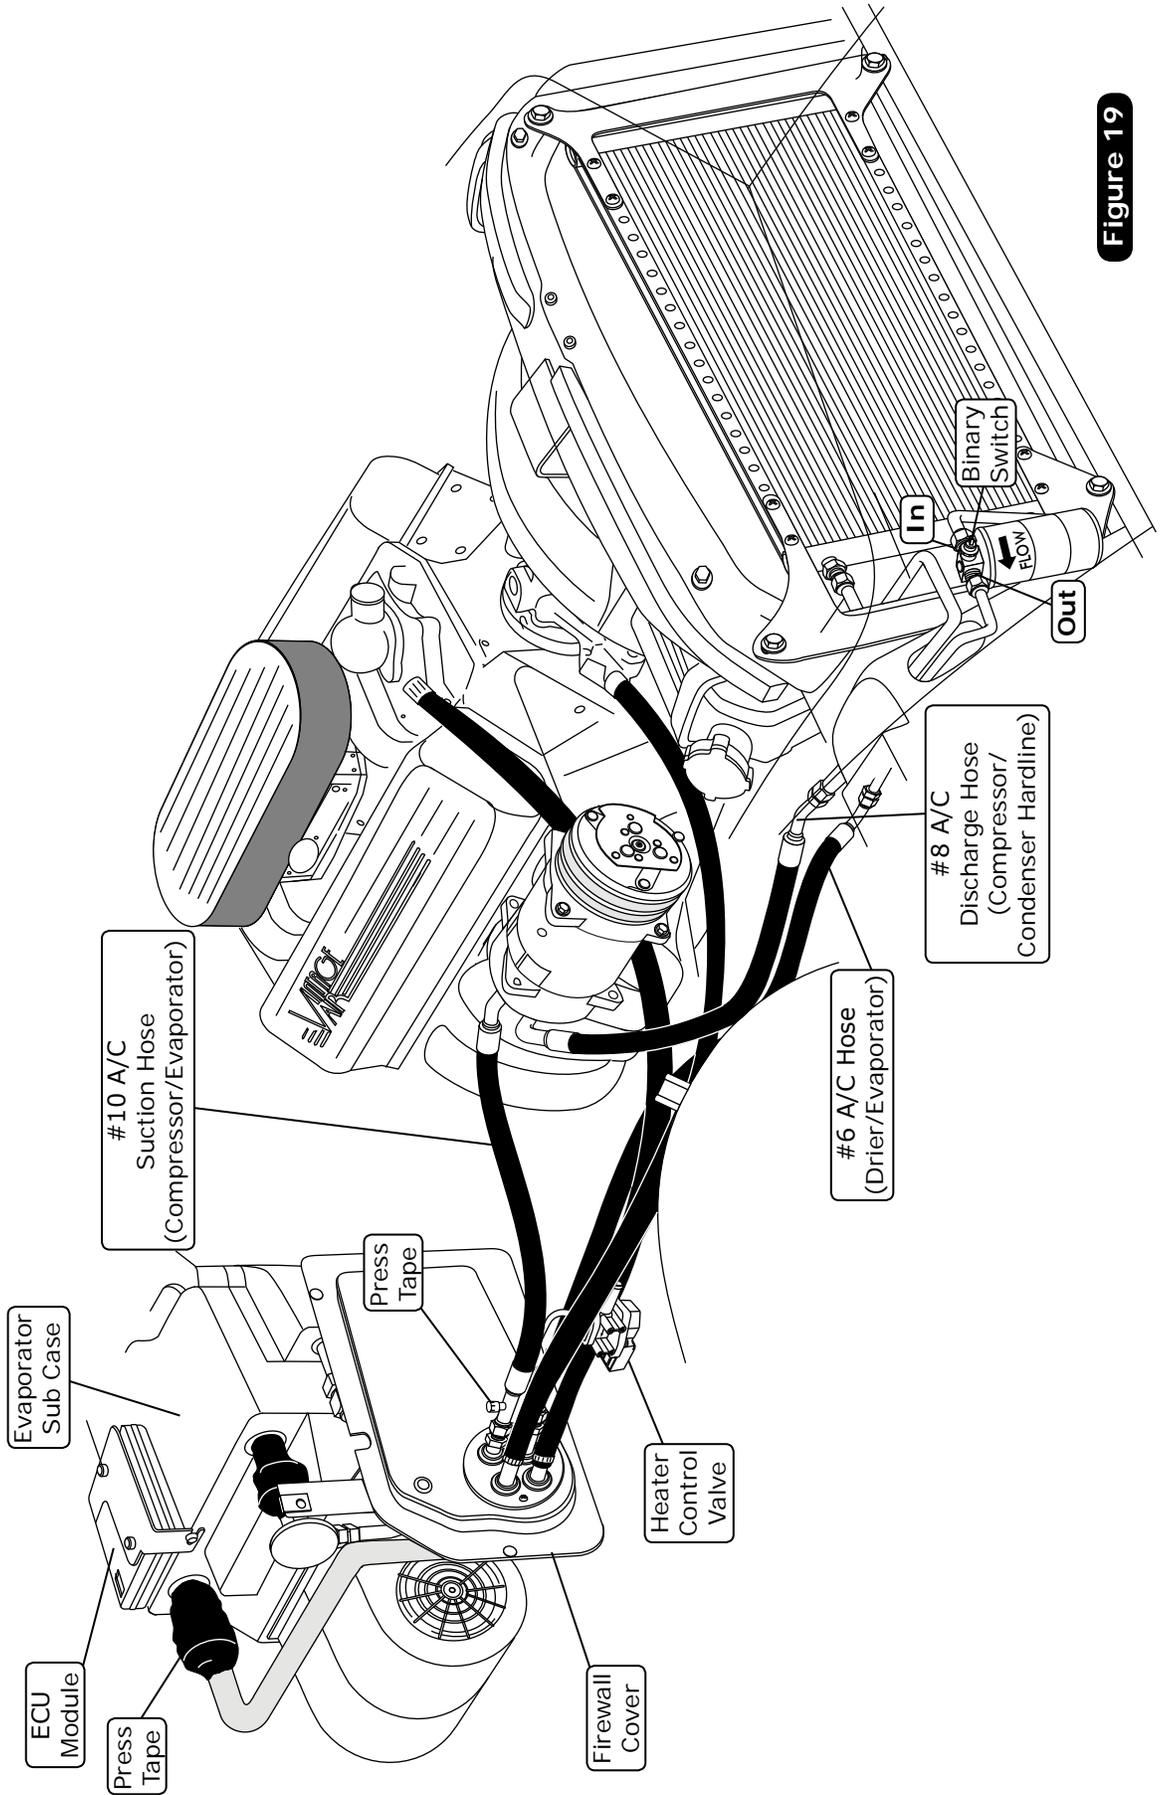

Figure 19
1. Locate the #8 compressor A/C hose. Lubricate (2) #8 O-rings (See Figure 18, below) and connect the 135° female fitting to the #8 discharge port on the compressor. Then route the 45° female fitting to the #8 condenser hardline coming through the core support (See Figure 19, Page 20). Tighten each fitting connection as shown in Figure 18, below.
2. Locate the #10 compressor A/C hose. Lubricate (2) #10 O-rings (See Figure 18, below) and connect the 45° female fitting with 134a service port to the #10 suction port on the compressor. Then route the straight fitting to the #10 evaporator hardline coming through the firewall (See Figure 19, Page 20). Tighten each fitting connection as shown in Figure 18, below. **NOTE: Wrap the #10 fitting connections at the firewall with press tape (See Figure 19, Page 20).**
3. Locate the #6 A/C hose. Lubricate (2) #6 O-rings (See Figure 18, below) and connect the 90° fitting to the #6 hardline coming through the core support from the drier. Attach the straight fitting with 134a service port to the #6 evaporator hardline coming through the firewall (See Figure 19, Page 20). Tighten each fitting connection as shown in Figure 18, below. Use a #6 Adel clamp to secure the #6 A/C hose to the inner fender well as shown in Figure 19, Page 20. Secure the Adel clamp to the inner fender using a 10-32 x 1/2" machine screw and nut.